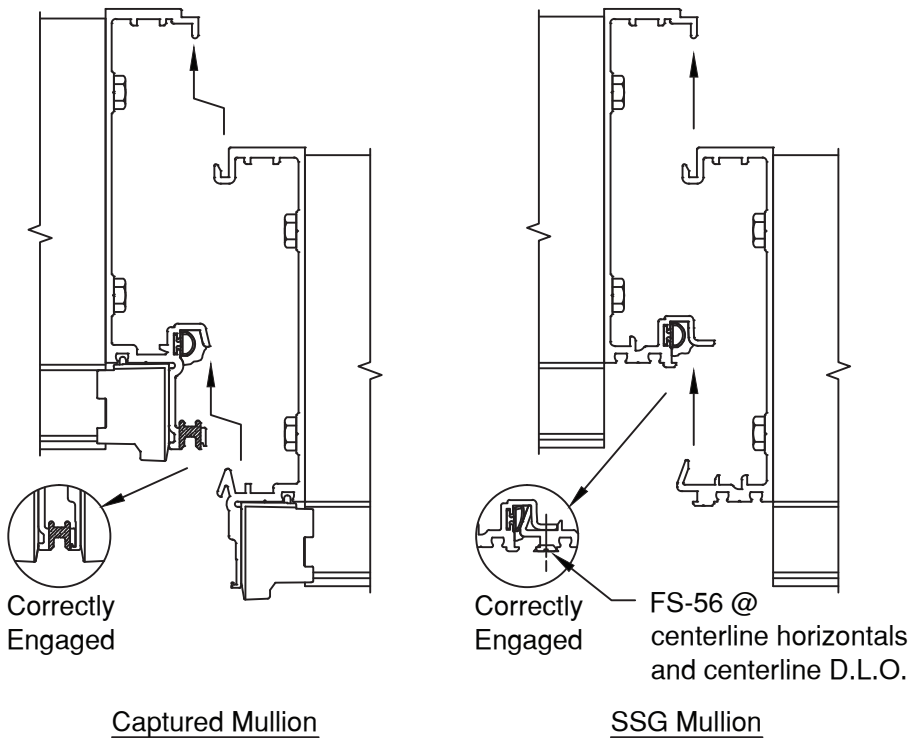

FIGURE 18
3.4 Set next bay into opening by engaging mullion halves together. Ensure that bottom of mullion halves align. Anchor this bay to structure. For SSG mullions, pin halves together at centerline of horizontals and centerline of D.L.O. with FS-56 #10 x 1/2" Phillips Flat Head screw (or as noted by approved shop drawings). Seal heads of screws. **SEE FIGURE 18, page 17.**